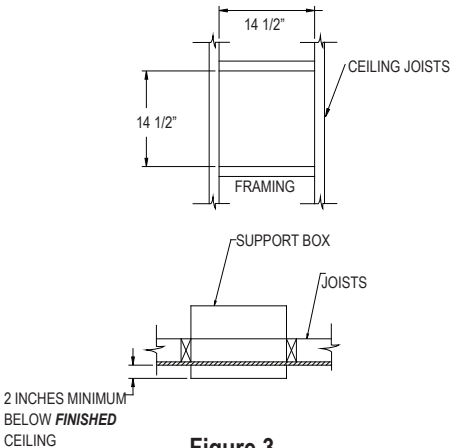

Figure 3
- 2. Frame Support Opening:** Drop a plumb bob to the center of the appliance's flue outlet and mark this center point on the ceiling. Refer to Table 2 for specific framing and clearance dimensions. Mark appropriate cutting lines around the center point. Cut a square hole in the ceiling for a Square Support Box, or a round hole for a Round Support Box. Frame a level, square opening centered over the hole which you have cut. (**Figures 3 and 4**).